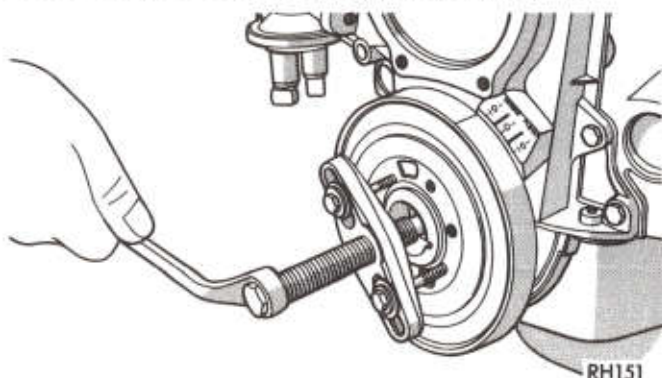

Fig. 25—Removing Vibration Damper Assembly
- (1) Drain cooling system.
- (2) Refer to Cooling System Group 7 for procedure to remove water pump.
- (3) Remove power steering pump.
- (4) Remove pulley from vibration damper and bolt washer securing vibration damper on crankshaft.
- (5) Install bar from Tool (C-3688) and screw from Tool (C-3732A) and pull vibration damper from end of crankshaft (Fig. 25).
- (6) Remove fuel lines and fuel pump.
- (7) Loosen oil pan bolts and remove the front bolt at each side.
- (8) Remove chain case cover and gasket using extreme caution to avoid damaging oil pan gasket.
- (1) Disconnect battery.
- (2) Loosen and remove belts from crankshaft pulley.
- (3) Remove radiator shroud retainer screws and set shroud back over engine.
- (4) Remove fan and shroud from engine.
- (5) Remove crankshaft pulley and vibration damper bolt and washer from end of crankshaft.
- (6) Install bar from Tool (C-3688) and screw from Tool (C-3732A) and pull vibration damper from end of crankshaft. (Fig. 25).